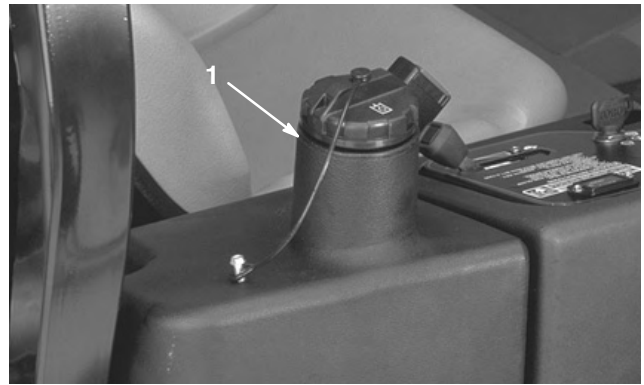

Figure 49
3. Fill the reservoir (Fig. 49) with approximately 3.5 U.S. gallons (13.2 l) of hydraulic fluid; refer to Checking the Hydraulic System, page 18.